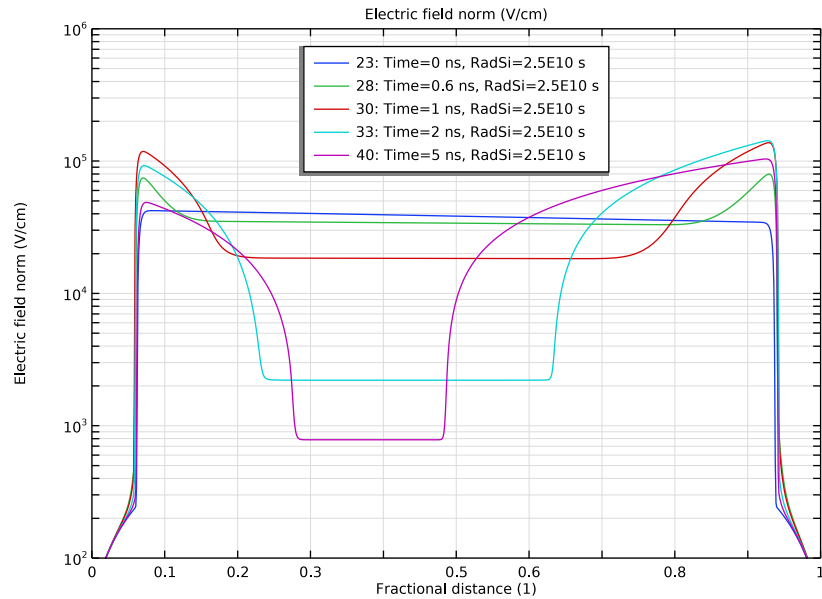

Fig. 8 Transient Photocurrent Response
After completing the steady-state study, we are now ready to investigate the effect of pulsed radiation with the waveform given by the inset of Fig. 8 in the reference paper. This waveform is provided by the pulse function $pw1(\tau/tp)$ in the model with a normalized height of unity. The peak dose rate is specified by the parameter $RadSi$ directly in units of $Rad(Si)/s$. Tighten the tolerance to $1e-8$. Since the solution of the steady-state study is used as the initial condition, use the option of **Initial value based** for the scaling of the dependent variables, to get a proper scaling for the error estimate.
Plot the hole, electron, and electric field distributions at several times, and the photocurrent response at two ionization levels, to be compared with Fig. 7A ~ 7C and Fig. 8 in the reference paper, respectively.
- 2 In the **Settings** window for **ID Plot Group**, type Fig. 8 Transient Photocurrent Response in the **Label** text field.
- 1 Right-click **Fig. 8 Transient Photocurrent Response** and choose **Global**.
- 5 In the **Fig. 8 Transient Photocurrent Response** toolbar, click  **Plot**.